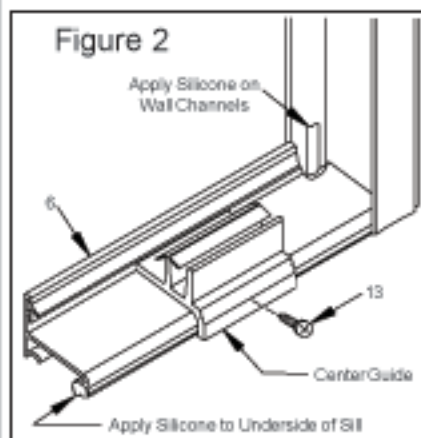

Figure 2
9. Measure from inside of wall jamb to inside of 90 post and use this measurement to cut sill (6) to length. Run a bead of silicone full length to underside of sill and apply silicone in corners where wall jamb and corner post meet curb and press guide firmly into place on curb (See Figure 2).